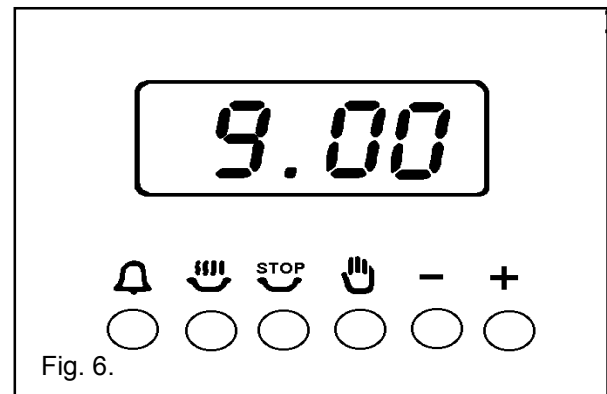

Fig. 6.
- i) Ensure the electricity supply is switched ON and that the correct time of day is displayed, e.g. 9. a.m. as Fig. 6.